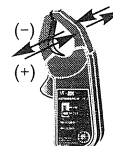

Fig. 3. Polarity of dc current readings.
- The dc current reading is positive when the current is flowing *into* the clamp from the front. The reading is negative when current is flowing outwards. See Fig. 3.